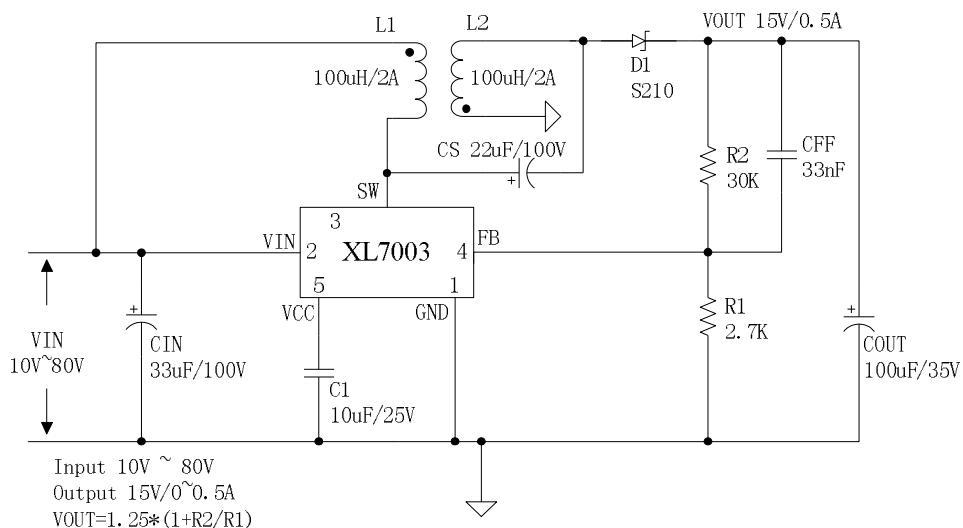

Figure4. XL7003 Typical Application Circuit
System parameters test circuit figure4
**Electrical Characteristics (DC Parameters test circuit figure4)**Vin = 48V, GND=0V, Vout=15V,Iout=0.1A;  $T_a = 25^\circ\text{C}$ ; the others floating unless otherwise specified.